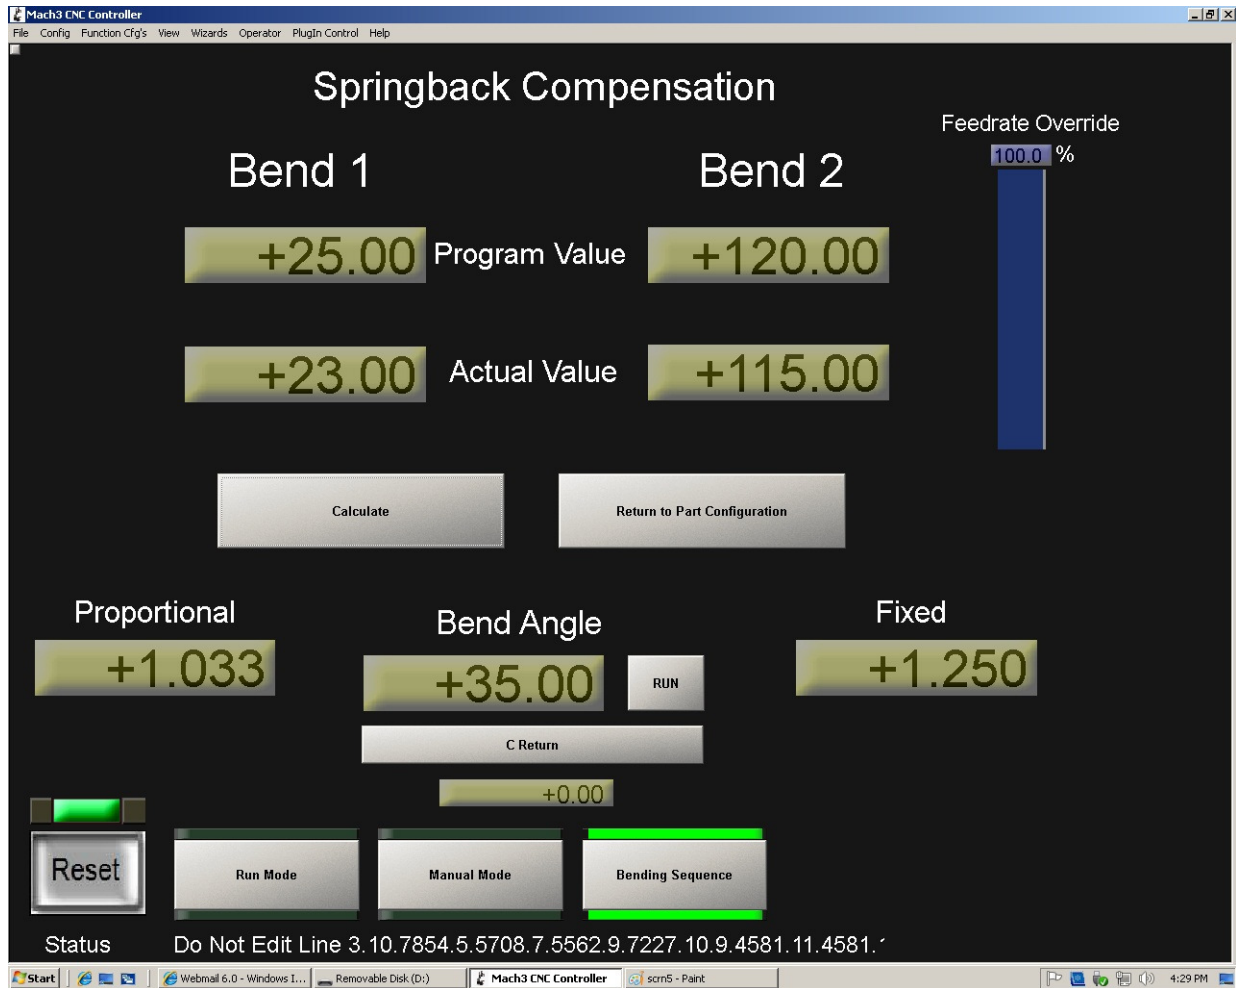

Figure 33 Springback Calculator
5. Enter the commanded angle (the value in bend angle field) into the first input field under Bend 1. This is the programmed value (Figure 33 on page 28).
6. Measure the actual angle of the tube. Enter this value under the second input field for Bend 1. This is the actual value (Figure 33 on page 28).